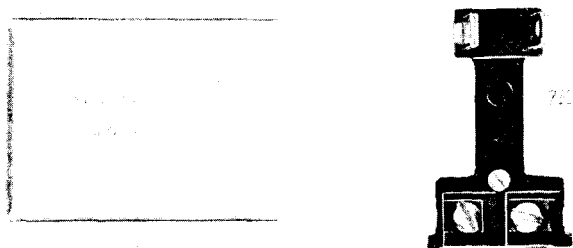

Fig. 21—95B1 Power Unit
Danger: For safety, securely attach retaining clamp to ac outlet using outlet cover screw **BEFORE** attempting to install 85B1 power unit. See Fig. 21. When removing 85B1 power unit, always unplug the power unit completely from the outlet **BEFORE** attempting to remove the retaining clamp. This will prevent the possibility of a loosened retainer clamp or metallic outlet cover making contact with the ac prongs of the 85B1 power unit when partially withdrawn from outlet. Do not use
13. 95B1 POWER UNIT (FIG. 21)